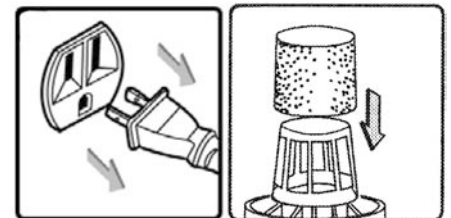

FIGURE 11
- 2) Install a clean and dry foam filter. If wet vacuuming under normal conditions (small amounts of liquid pick-up), the foam and re-usable filters can be installed, but when vacuuming large amounts of liquid, only install the foam filter, see Fig.11. A dust bag can not be used for wet vacuuming. Make sure the inside of the tank is clean.